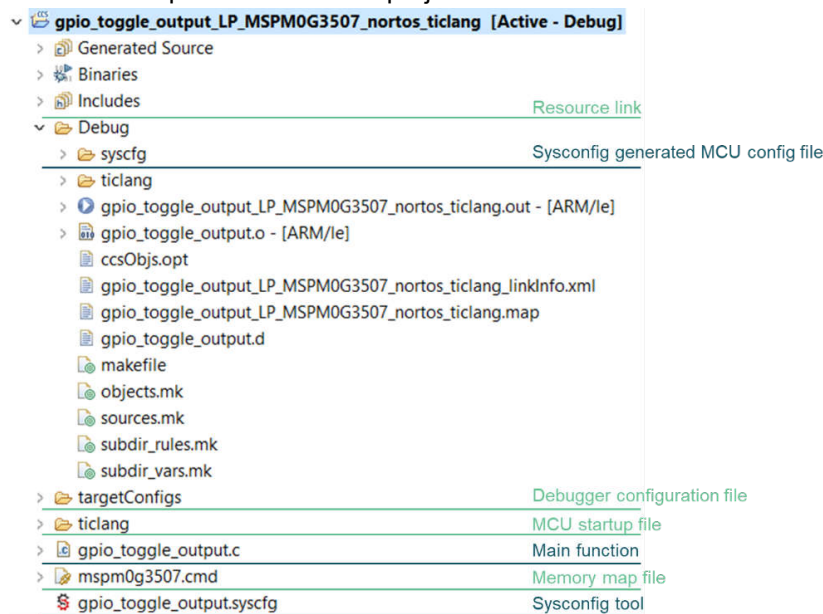

Figure 2-30. CCS Project Overview
- Figure 2-30 shows the most important files in the project.